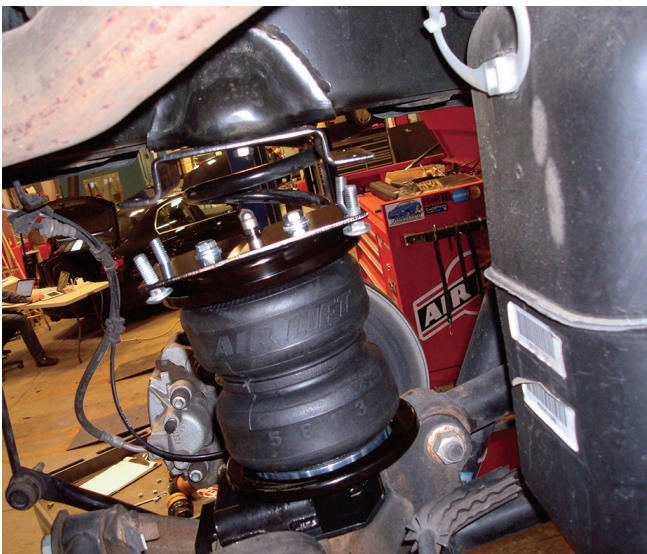

Fig. 26
- Set the right (passenger's) side assembly into position in the same way, indexing the lower bracket with the tabs under the jounce bumper strike plate and, with the exception of using the slot for the carriage bolt in the lower bracket, install the carriage bolts in the same manner. Torque both sides of the lower bracket hardware evenly to 31 lb.-ft. (42Nm), making sure the tabs are still indexed under the jounce bumper strike plate. Figures 26 & 27 show the assemblies bolted into position.